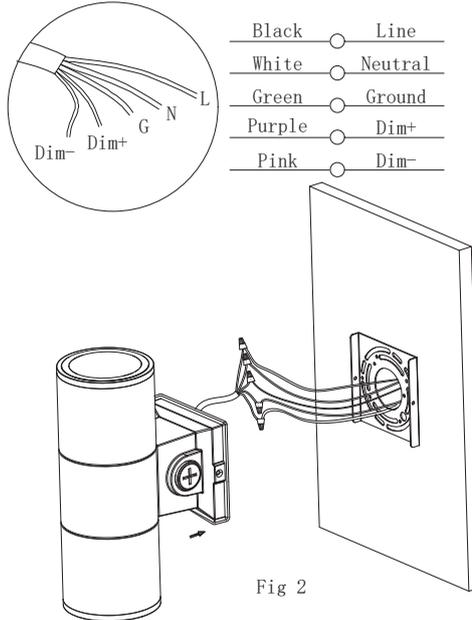

Fig 2
2. Connect the corresponding terminals according to the wiring diagram, connect L, N, and ground wires properly. (Fig 2)